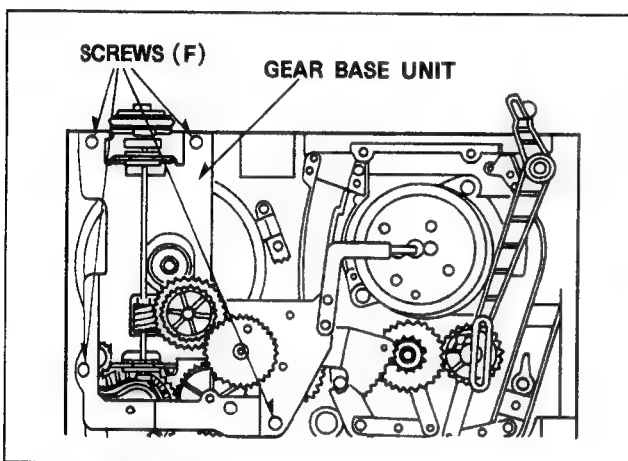

Figure M14-A
2. Unscrew the 4 (F) screws and remove the Gear base Unit.
3. Carefully lift up the capstan rotor from the capstan housing, taking care so as not to lose the 2 oil seals as shown in Figure M14-A.